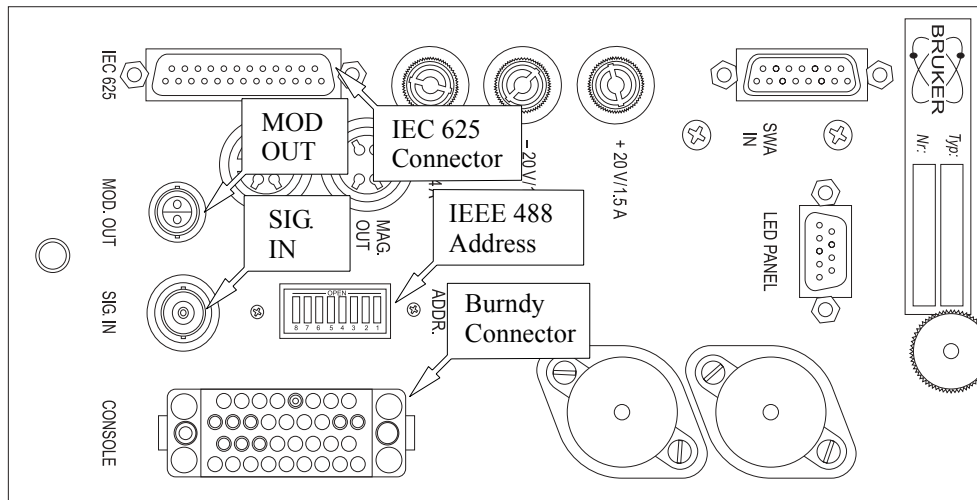

Figure 12-13 Back view of the FF-Lock.
7. **Connect the power supply cable.** Locate the FF-Lock Burndy cable from the power rack on the back of the console. Connect it to the Burndy connector on the back of the FF-Lock. (See Figure 12-13.)
8. **Connect the IEC 625 cable.** There is an IEC 625 cable connected to the front of the GSI board of the acquisition server. Connect the other end to the IEC 625 connector on the back of the FF-Lock. (See Figure 12-13.)
9. **Connect the FF-Lock probe head.** There are two cables coming out of the FF-Lock probe head. The Modulation/Sweep cable (triax) needs to be connected to MOD OUT on the back of the FF-Lock. The Signal cable (coax) needs to be connected to SIG IN on the back of the FF-Lock. (See Figure 12-13.)
10. **Check the IEEE 488 address.** The default IEEE 488 address is three. The DIP switches for setting the address define a binary number. Therefore three corresponds to switches 1 and 2 on. Switches 6 and 7 should be on for proper communication. All other switches should be off. The switches are rocker switches and on corresponds to having the upper part pressed in. (See Figure 12-13.)